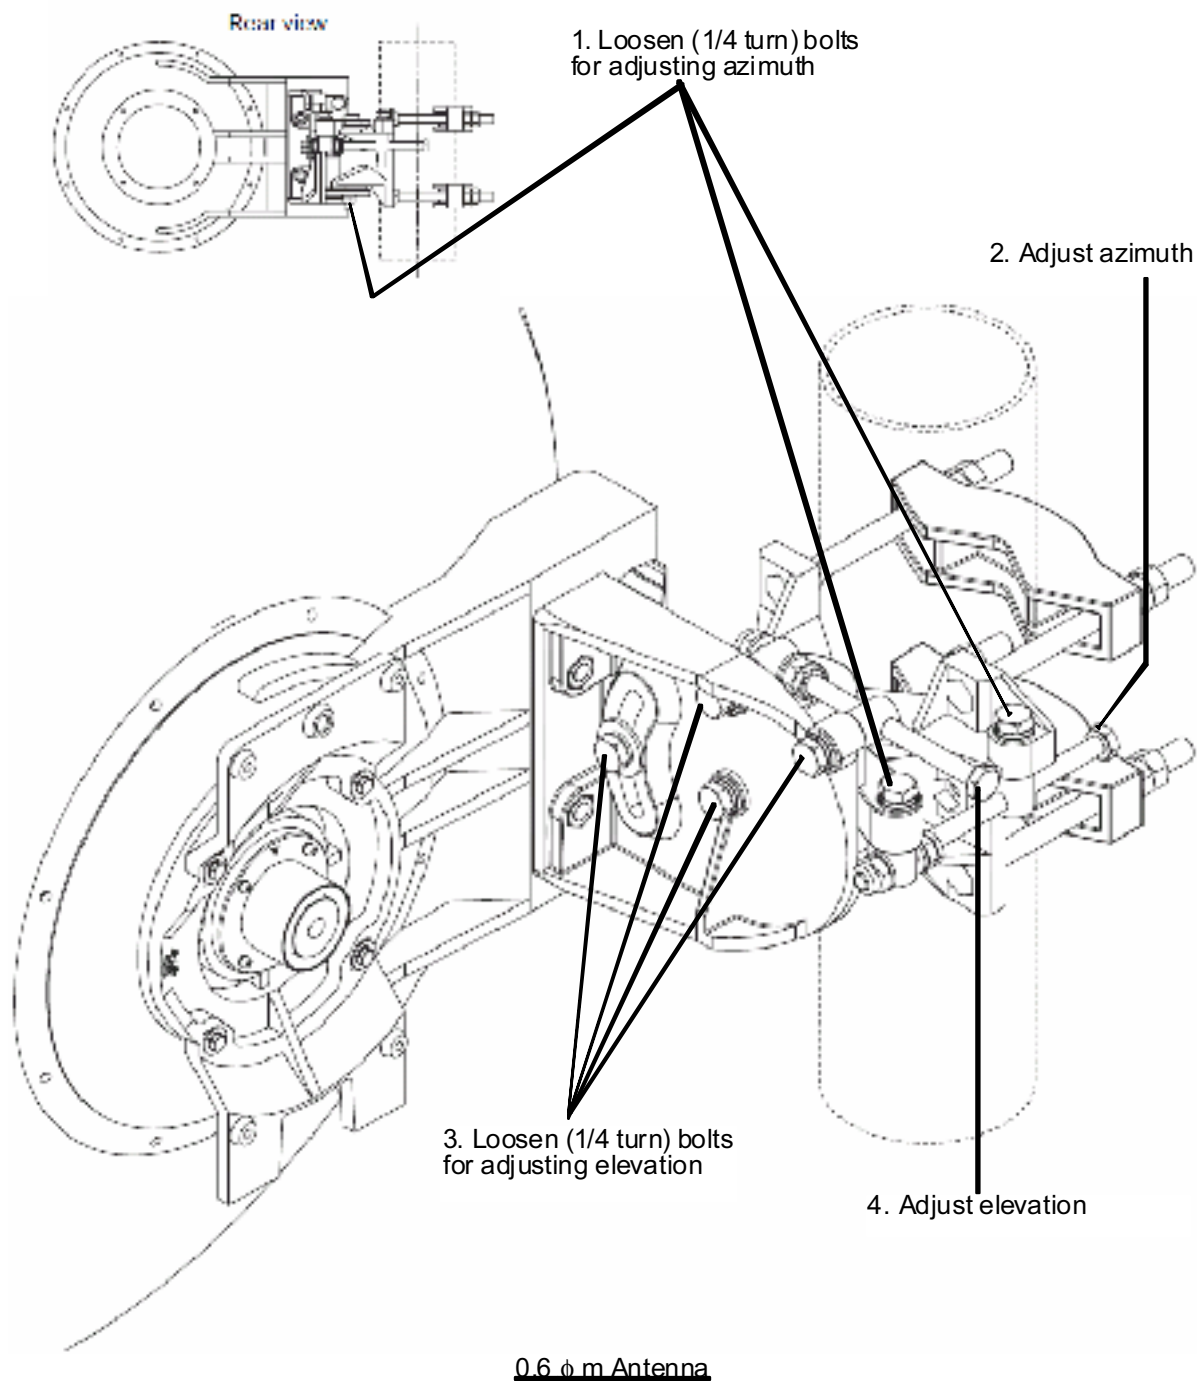

Figure 11-5 Location of Adjusting Nuts and Bolts (RFS C-Mount Type Bracket)
- C-1 Loosen three bolts (1 in Figure 11-5),
- C-2 Adjust azimuth angle by adjusting bolt (2 in Figure 11-5),
- C-4 Loosen four bolts (3 in Figure 11-5),
- C-5 Adjust elevation angle by adjusting bolt (4 in Figure 11-5),